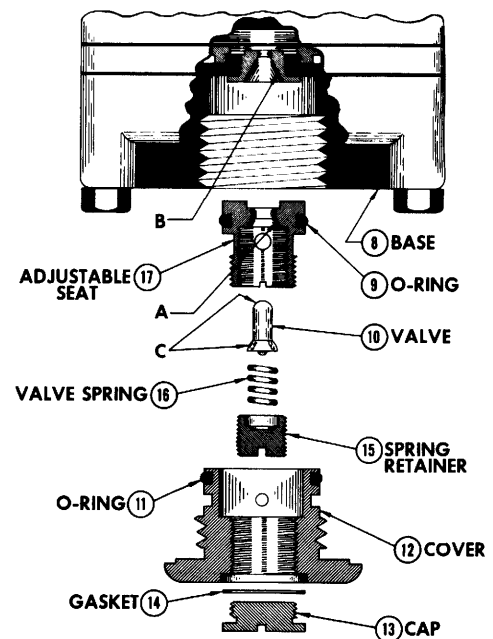

Figure 3
See Figure 3
2. Disassemble the cover assembly as shown in Figure 3.
5. Reassemble the cover assembly as shown in Figure 3. Be sure the Valve Cover is tight. Following the procedure outlined in Section IV, adjust the Valve Seat, replace the Cap and check the Cap and Cover for leakage.
3. Inspect the valve seats (A and B in Figure 3). These surfaces must be clean and smooth with no scars or surface irregularities.